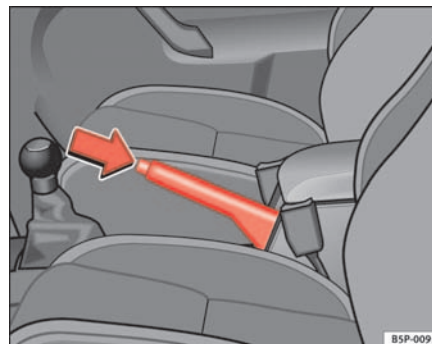

Fig. 138 Handbrake between the front seats
- Pull the handbrake lever up firmly ⇒ fig. 138.
- Pull the lever up slightly and press the locking knob in the direction of the arrow ⇒ fig. 138 and guide the handbrake lever down fully ⇒ .